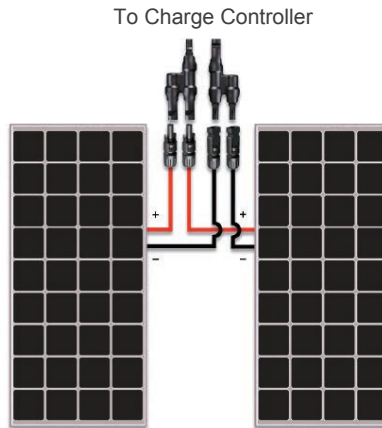

Figure 8.2 Two RNG-100D Panels in parallel
Fig. 8.2 above shows the arrangement for connecting two solar panels in parallel with one pair of Solar Y Branch Connectors. This arrangement is applicable if two solar panels will be mounted adjacent to one another. This connection requires **one (1)** pair of Solar Y Branch Connectors. When the panels are mounted at different locations- that is, separated by a distance, the panels must be extended with Solar Connector Extension Cables (sold separately).